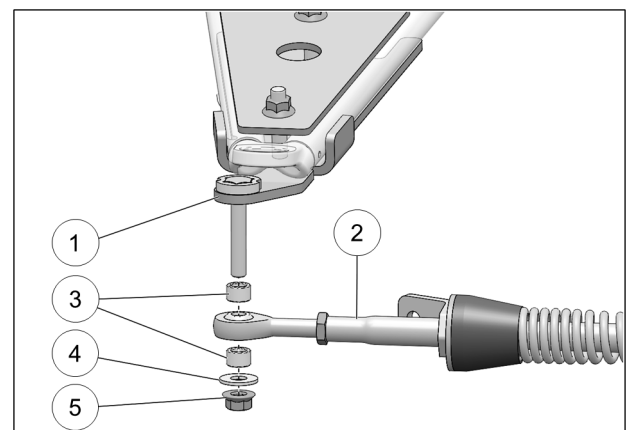

Fig. 21
- Attach the stabilizing rod (**2**) to the anchor bracket (**1**), using the two spacers (**3**), washer (**4**), and nut (**5**). Torque to 70 N•m [52 lb•ft]. Refer to Fig. 21